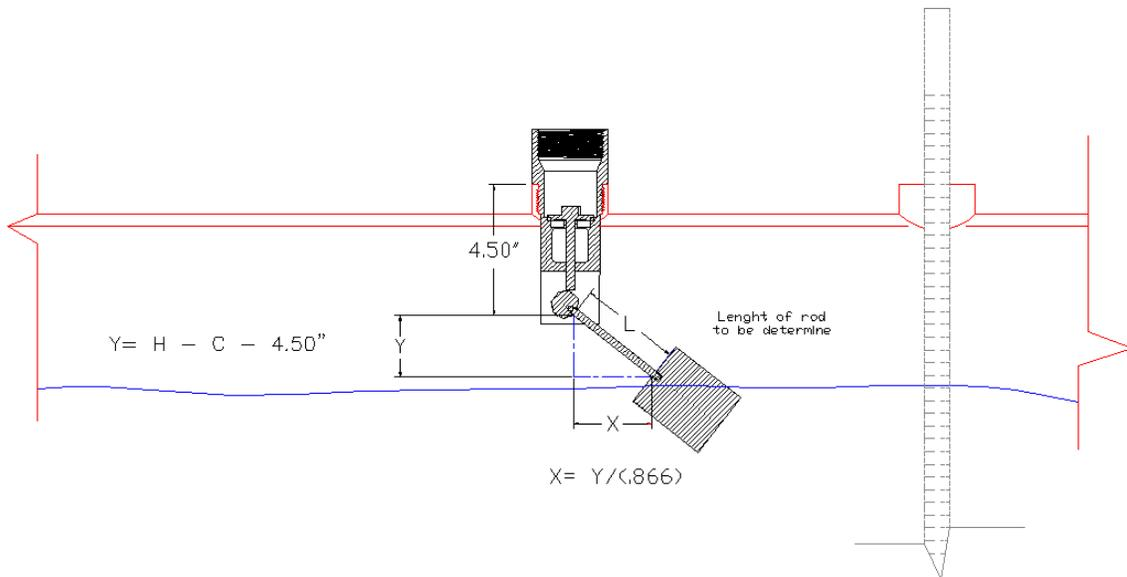

Figure 4 Calculating values for "Y" and "X"
3. Subtract 4.5" and the height "C" from the height "H" to determine a distance "Y" as shown in Figure 4. ($H - C - 4.5$)
4. Divide the value obtained for "Y" by .866 to determine the distance "X" also shown in Figure 4.